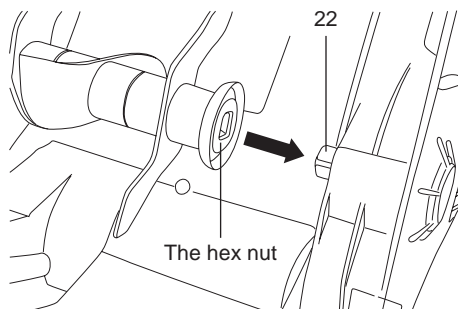

Fig. 26
6. Align and insert the new cutting device: Slide the hex nut (built in the end of the cutting device) into the drive shaft (22) and fix the bearing together with the seat (23) to the support with the bolts (24a) and washers (24b) (Fig. 26).